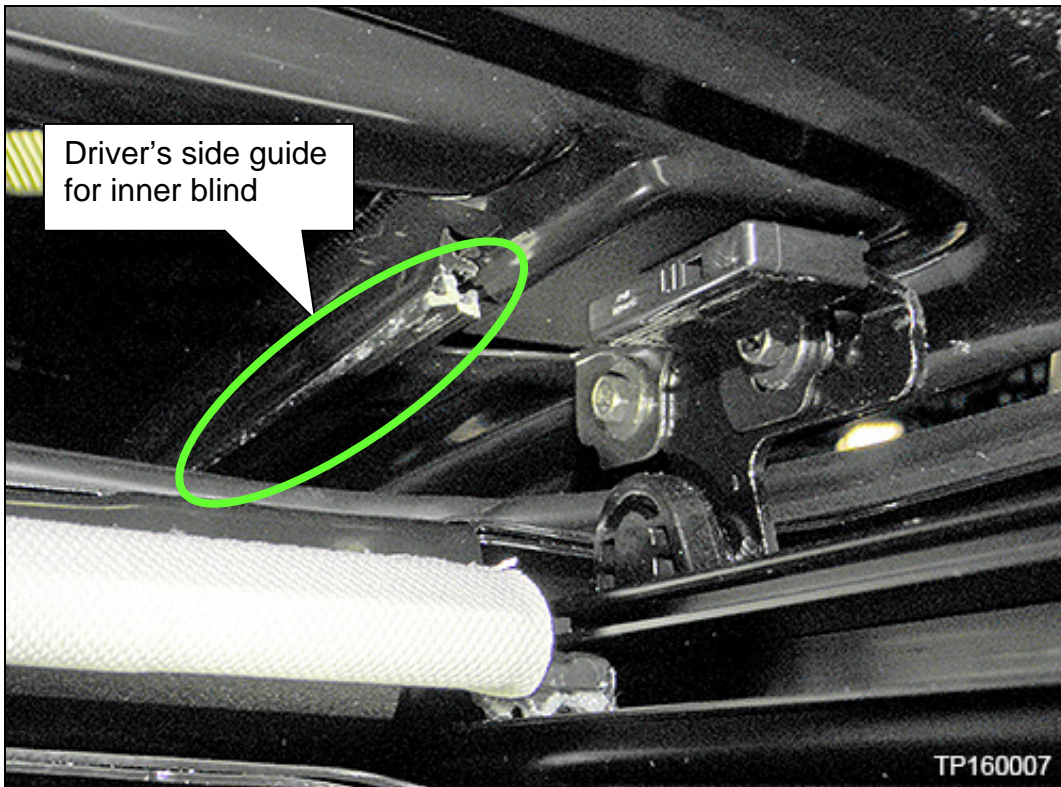

Figure 11
- a. Slide the top of the left and right inner blinds onto their guides (Figure 11).